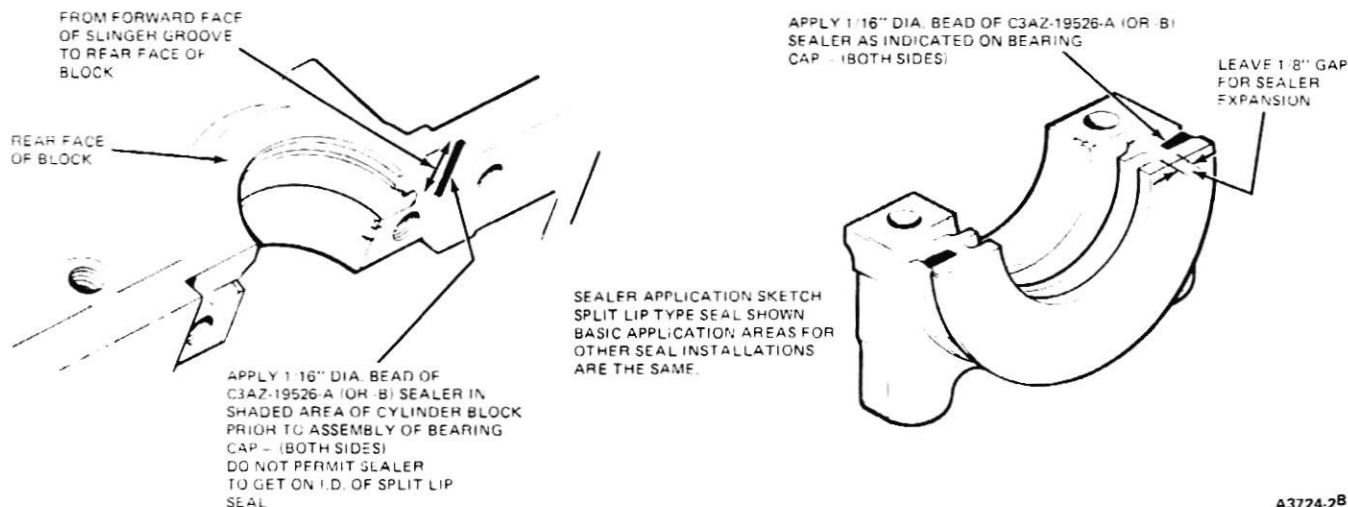

FIG. 27 Applying RTV Sealer To Main Bearing Cap and Block—Typical for I-6 and V-8 Engines
Be sure no rubber has been shaved from the outside diameter of the seal by the bottom edge of the groove. Do not allow oil to get on the sealer area (Fig. 27).
- Apply an even $1/16$ inch bead of RTV silicone rubber sealer to the areas shown in Fig. 27, following the procedure given in the illustration.
- Carefully clean the seal grooves in the cap and block with a brush and suitable solvent. Also clean the area where sealer is later to be applied (Fig. 27). Dry the area thoroughly, so no solvent touches the seal.